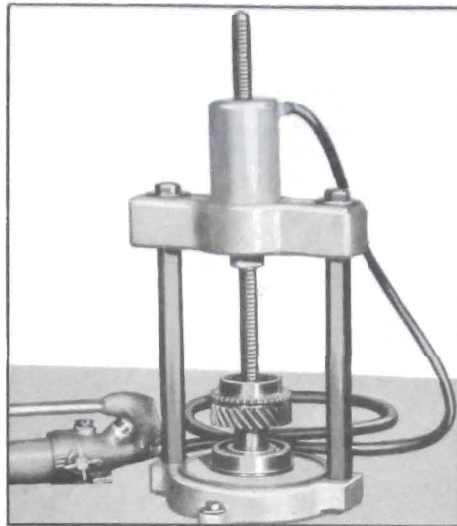

Figure 4-72—Installing Main Drive Gear Bearing
2. Using heavy grease to retain the rollers, install 20 rollers in either end of the countergear, two .050" spacers, 20 more rollers, then one .050" spacer. Install in the other end of the countergear, 20 rollers, two .050" spacers, 20 more rollers, and another .050" spacer. (See Figure 4-72).
3. Press bearing onto main drive gear (snap ring groove to front), using J-5746 (Figure 4-72). Be sure bearing fully seats against shoulder on gear.